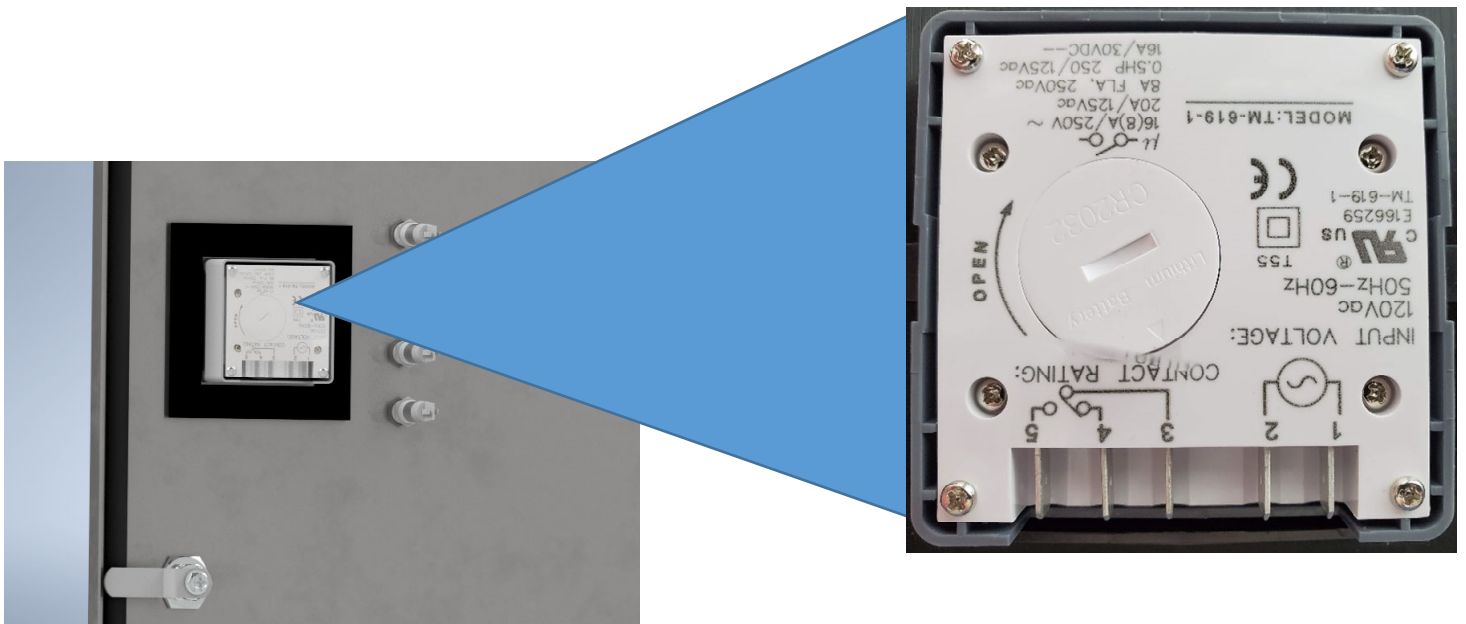

Fig 2
3. Open the door wide enough so that you can gain access to the back of the 7-day timer located on the door, as shown in fig 2.